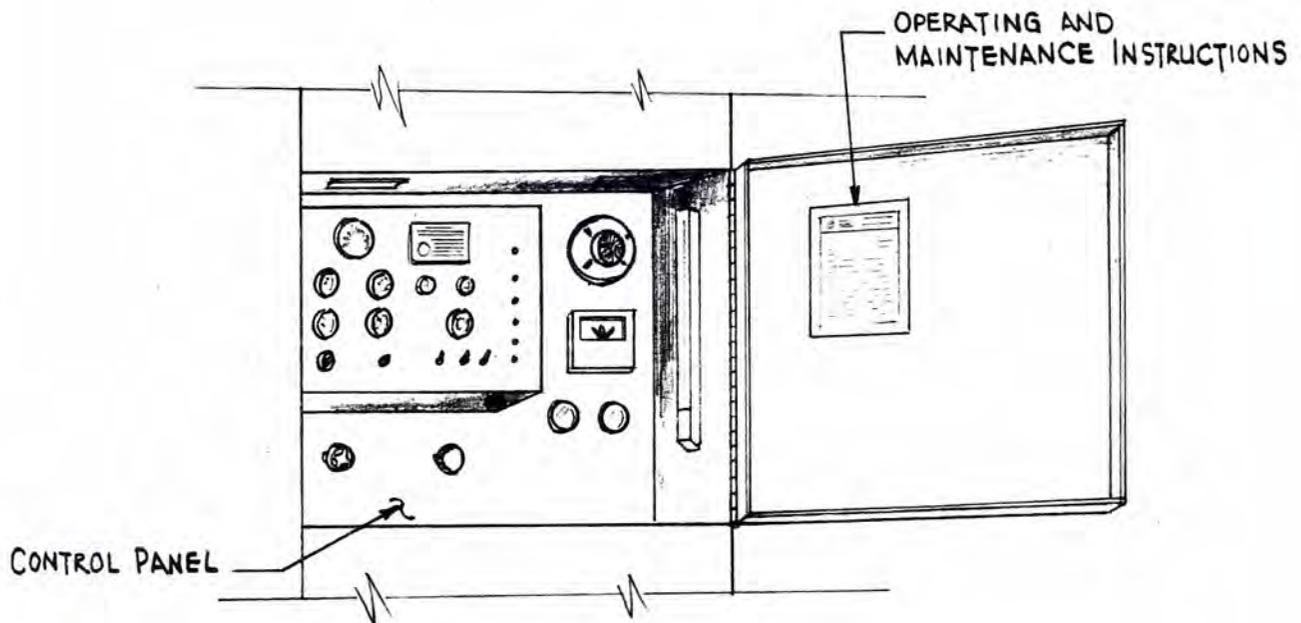

Fig. 3
1. For operator convenience, a brief list of operating and maintenance instructions (Fig. 3) are attached inside the control panel door. These instructions are there as reminders only. They are not complete and not intended to substitute for a thorough understanding of the Operators Manual.
2. The control panel (Fig. 3) at the side of the power pack contains the operating controls and gages. It also includes a series of six indicator lights which informs the operator which of six safety features has caused the engine to shut down. This directs the attention immediately to a potential problem area which may be resolved before operation can continue.